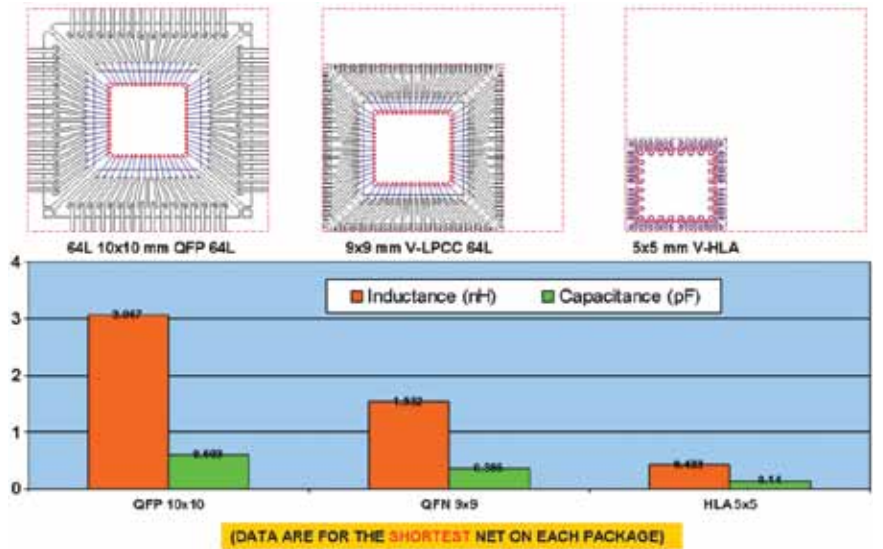

Figure 4. Inductance and capacitance comparison between HLA (Hi-Density Leadframe Array) and other leadframe-based packages.
3) Package performance requirements – Electrically, HLA is far superior to any leadframe product on the market. This is due to shorter wire and total signal lengths that are inherent in HLA designs. Savings of up to 75% of wire lengths help reduce wire sweep to almost zero. Figure 4 shows the inductance and capacitance comparison between HLA